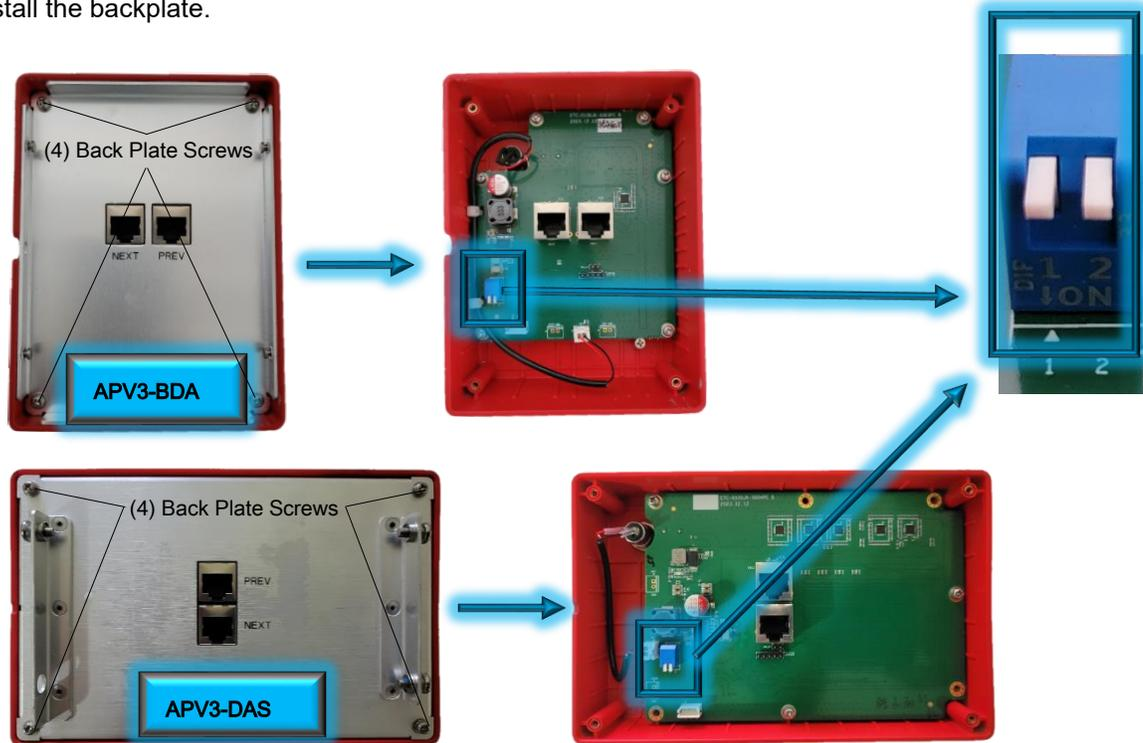

Figure 24: V3 AP - Address Switch Setting
When multiple APs are connected in cascade from a BDA, MU, or RU device, each panel must be uniquely addressed to ensure proper RS-485 communication with the host equipment. Addressing is accomplished using a four-position DIP switch located on the APs internal printed circuit board. When a single AP is connected, the address is set to **1**, which is also the factory default. When APs are connected in a cascaded configuration, each AP must be assigned an address corresponding to its position in the chain. The first AP is addressed as **1**, with subsequent APs incremented sequentially, up to a maximum of four (4) APs in cascade. For APV3-DAS systems, FOU1 through FOU4 indicators are directly associated with the AP address. For example, when both applicable DIP switches are set to the ON position, the AP address is **4**, and the **FOU4** indicator will illuminate, indicating that the AP is displaying alarms associated with remote units connected to **FOU4**. Refer to Figure 24 and Table 2 for additional configuration details.